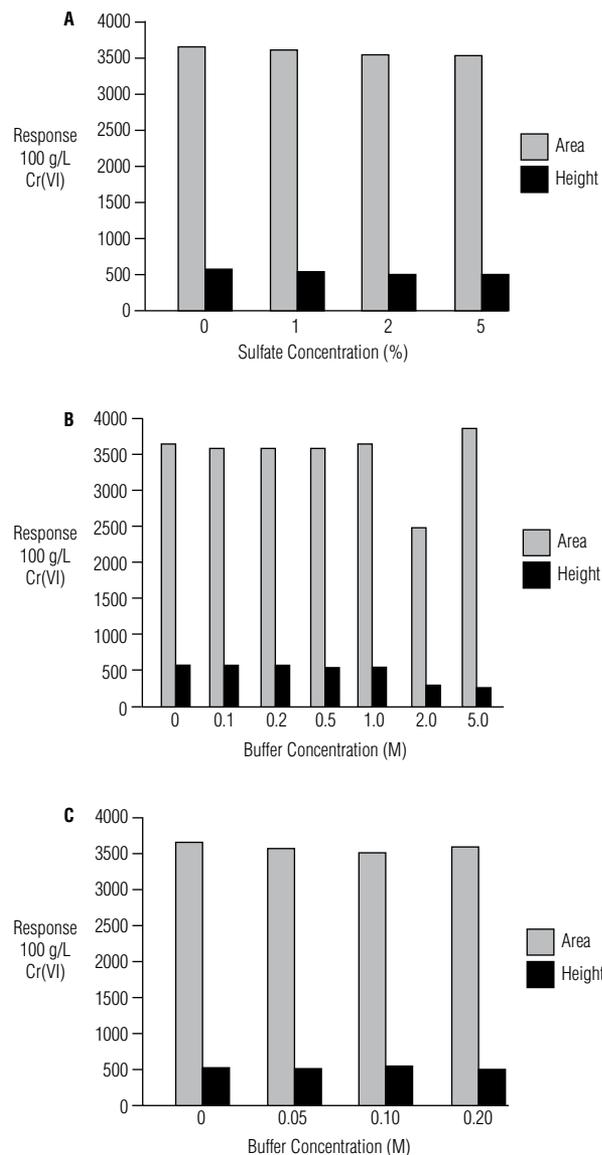

Figure 5. The responses of spikes in (A) alkaline sulfate, (B) acetate buffer, and (C) carbonate buffer samples.
The method can handle samples of up to 5% sodium sulfate, 2% sodium chloride, 1 M acetate buffer, or 0.5 M carbonate buffer without adverse effects on the analysis. Figure 5 illustrates the responses of 100 µg/L Cr(VI) spikes in various concentrations of these sample matrices.